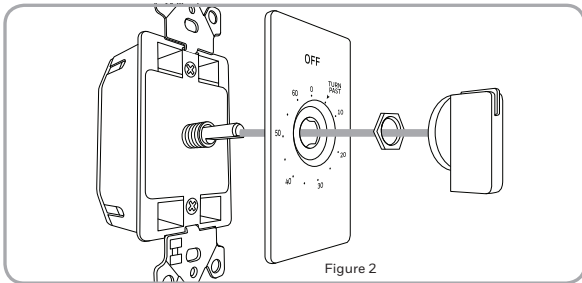

Figure 2
3. Carefully remove the knob, nut and faceplate from the timer. (See Figure 2).